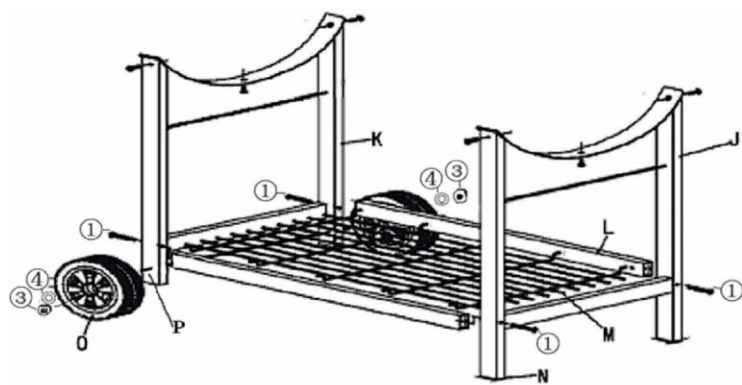

Fig. 1
1. Mount the metal tubes (L) to the support legs (J) and short support legs (K) using bolts (1). **(Fig. 1)**
2. Slide the axle (P) through the holes of the short support frame (K). Fit the wheels (O) to the axle (P) using nuts (3) and washers (4). **(Fig. 1)**